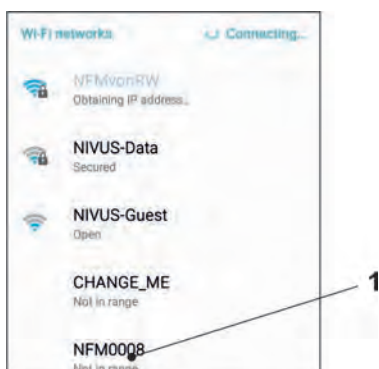

Fig. 31-4 WLAN list
4. In the WLAN list select the NFM (Fig. 31-4 Pos. 1) with the corresponding SSID (delivery status = serial number).